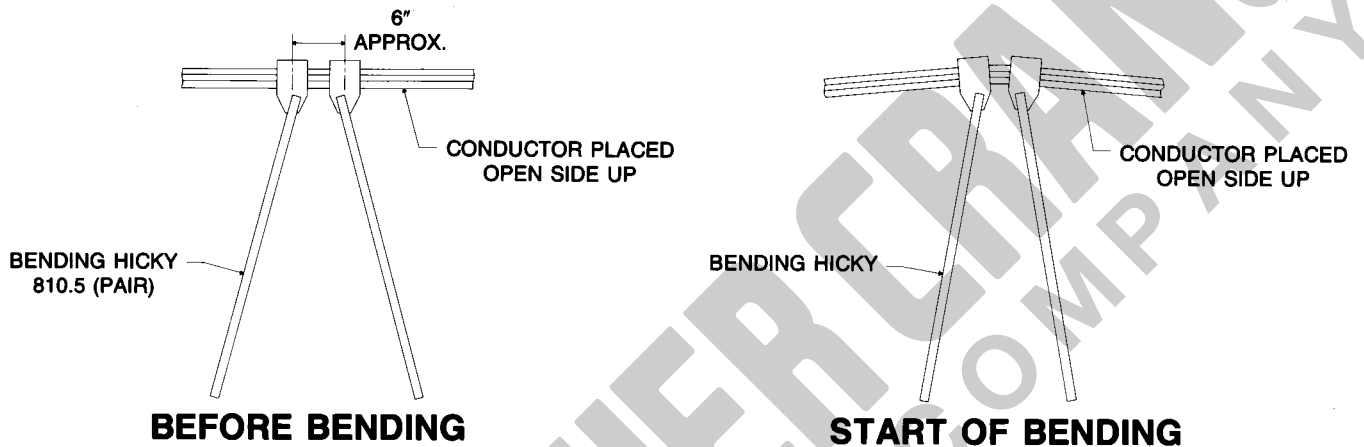
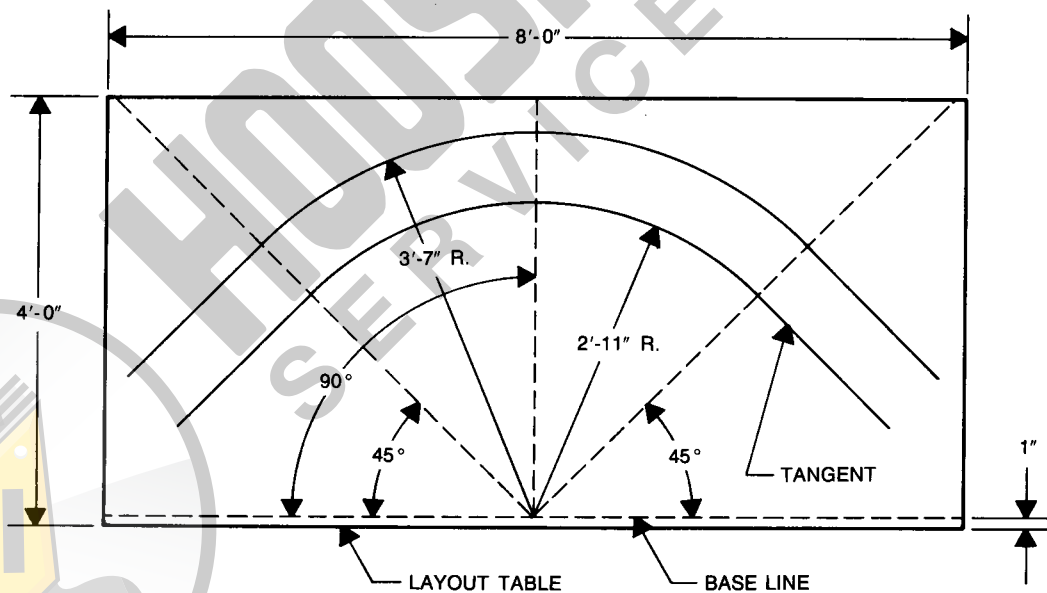

FIGURE 72
FIGURE 73
2. A bending hickey should be used to form curves. Refer to Figure 72. Use the floor or a work table to prepare a layout of curves required. Figure 73 shows an example for a standard 3'-4" radius track curve. Follow the 2'-11" radius scribed line for an inside curve and the 3'-7" radius scribed line for the outside curve. Use the near edge of the conductor bar section in lining up the conductor bar section with the scribed line. Lay conductor bar section on the layout with the open side up. Start bending at the center of the curve with the bending hickies about 6" apart, as shown in Figure 72. Form a short segment of curve. Make short bends progressively both ways from center, checking against guide line. Care must be exercised not to kink or spread the conductor bar. Where spacer insulators occur, shift hickey to miss spacer. After curve is formed, square off and cut ends. Assemble splice dowels and support insulators. When squaring and cutting ends of curved sections or fitting short pieces at the end of a run, use a hand saw.